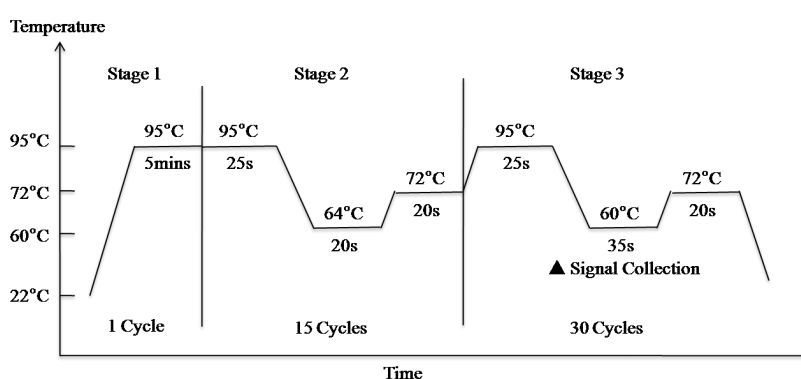

Figure 3. PCR Amplification Procedure
- (3) Set and run the amplification program as shown in Figure 3.